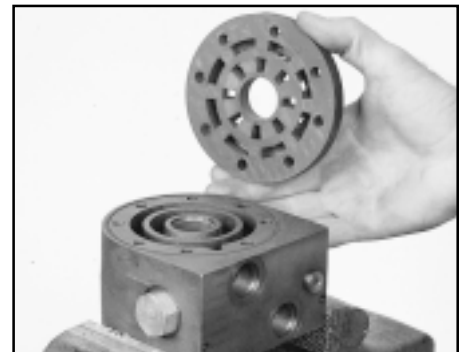

Figure A03
6. Place commutator plate (7) on the center block (9) with the square ring groove facing up. Align the 8 bolt holes in the plate with the 8 tapped holes in the body. (The holes will align in only 1 position). **Note:** Do not dislodge square ring seal (3) while positioning the commutator plate (7). SEE FIGURE A03